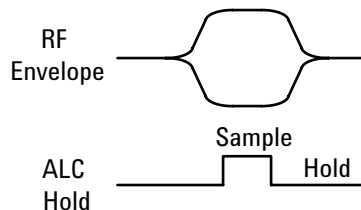

Figure 6. ALC sampling
- When I/Q modulation is used to simulate a pulsed RF signal with the internal baseband generator, the correct sample/hold signal must be routed to the ALC integrator. When using the Dual-Arb mode, this is done by routing one of the marker signals to control the ALC Hold function. As shown in Figure 6, the ALC should sample only during the top portion of the envelope, not during the rise/fall times.